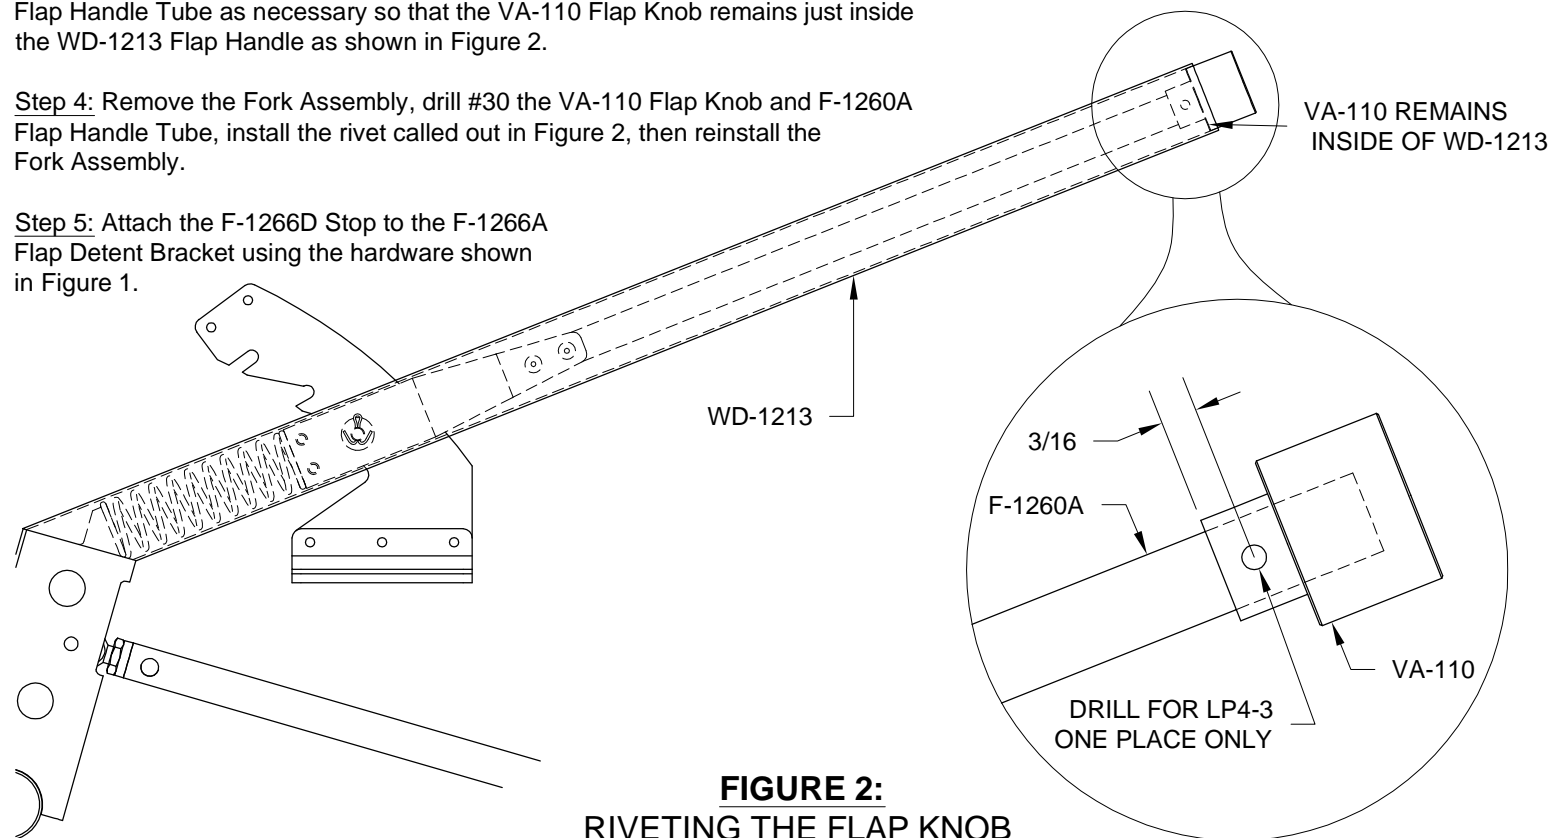

FIGURE 2: RIVETING THE FLAP KNOB
Step 3: With the Fork Assembly engaged in the F-1266A Flap Detent Bracket, trim the F-1260A Flap Handle Tube as necessary so that the VA-110 Flap Knob remains just inside the WD-1213 Flap Handle as shown in Figure 2.
Step 4: Remove the Fork Assembly, drill #30 the VA-110 Flap Knob and F-1260A Flap Handle Tube, install the rivet called out in Figure 2, then reinstall the Fork Assembly.